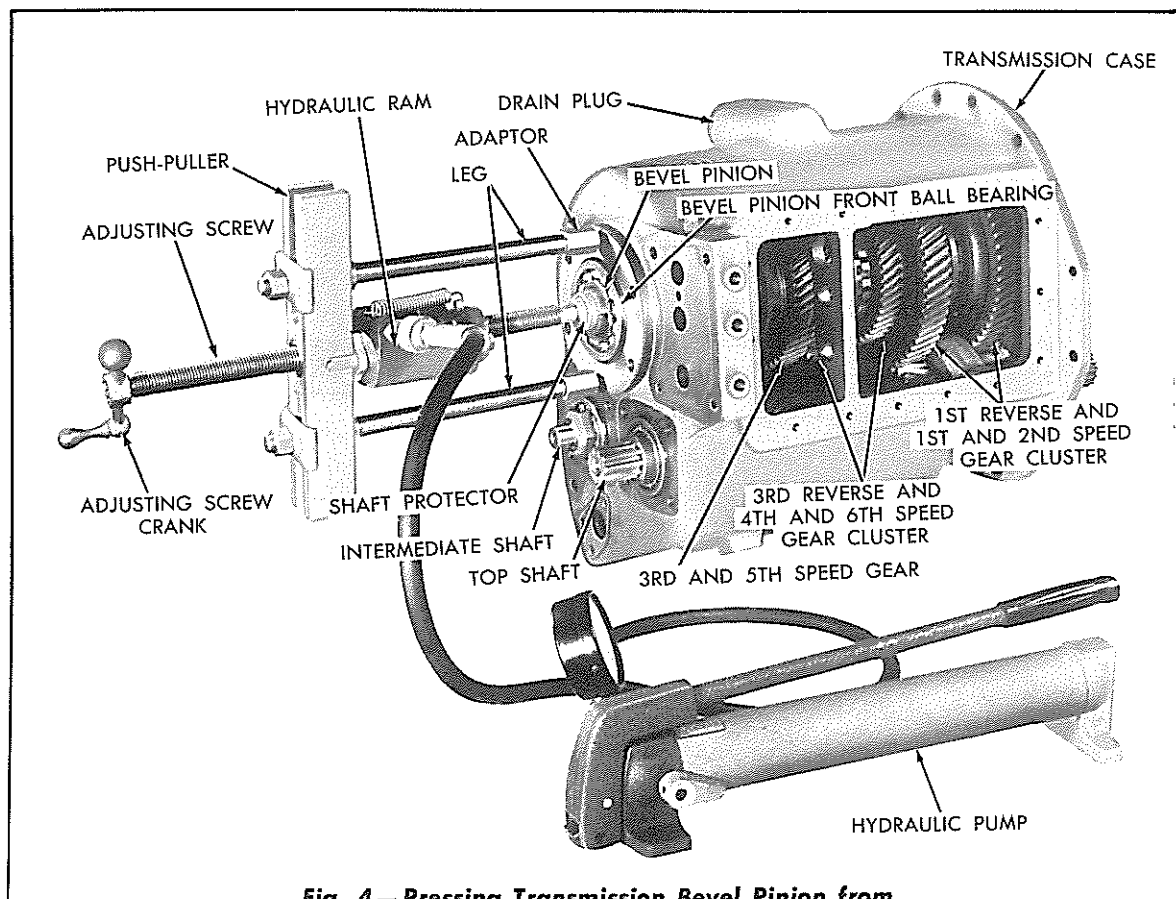

Fig. 4 — Pressing Transmission Bevel Pinion from Front Ball Bearing
9. Turn the transmission case on the work bench so that the top of the case is downward and block the case in this position. Using special tools similar to the ones shown in Fig. 4, push the bevel pinion from the bevel pinion front ball bearing. Pull the bevel pinion from the gears and the transmission case.